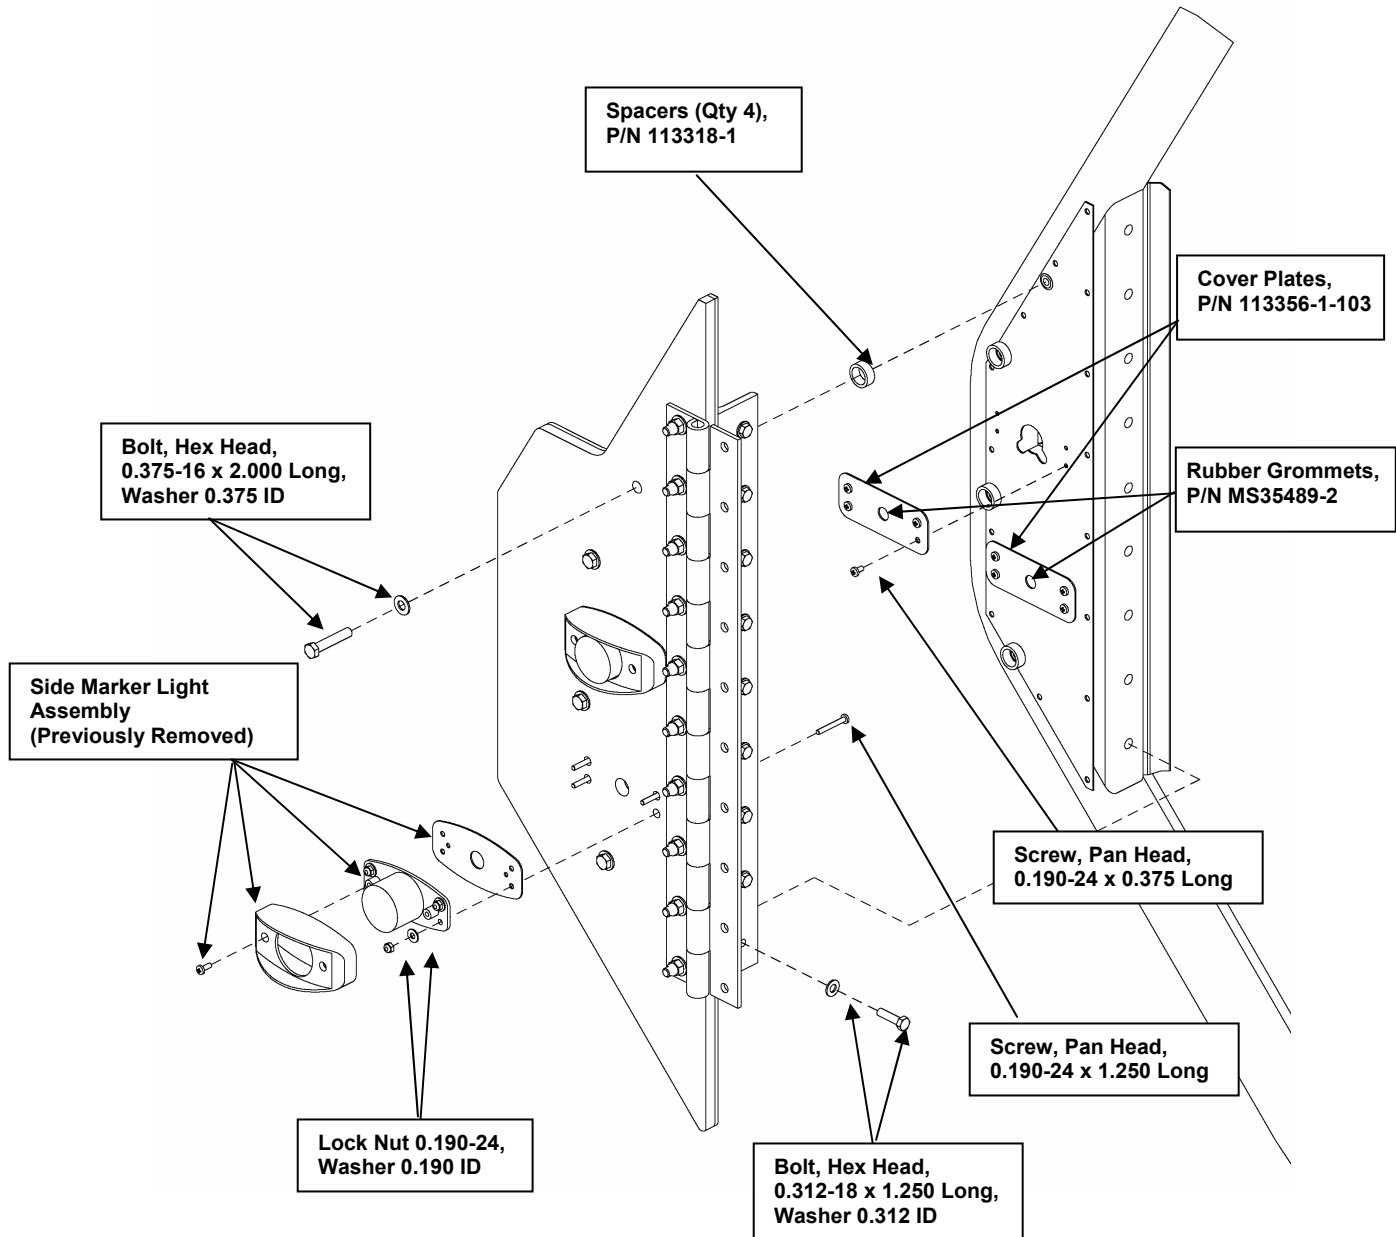

Figure 25. Marker Light and Front Panel installation.
- g) Install the Side Marker Lights that were previously removed, as shown in Figure 25. Feed the wires through the hole provided in the Armor Assembly.
- h) Install the Cover Plates (P/N 113356-1-103) using Urethane Sealant (P/N 104302-1) between the plate and the cab and four (4) 0.190-24 x 0.375-in.-long pan-head screws (see Figure 25).
- k) Pass the Marker Light wires through the rubber grommets and attach the Armor Assembly to the cab of the vehicle as shown in Figure 25. Do not over-torque the four bolts used in the rivet nuts. Torque the bolts in the rivet nuts to 20 ft-lb.